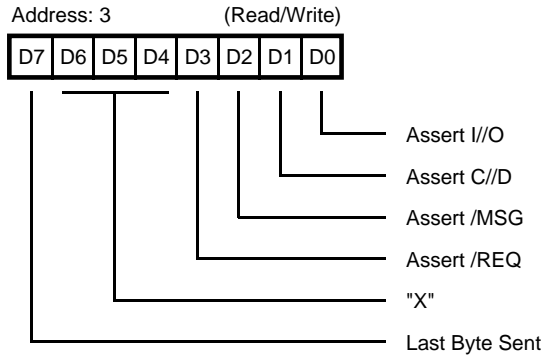

Figure 11. Target Command Register
Target Command Register. *Address 3(Read/Write).* When connected as a target device, the Target Command Register (Figure 11) allows the CPU to control the SCSI Bus Information Transfer phase and/or to assert /REQ by writing this register. The Targetmode bit (Mode Register, bit 6) must be True (1) for bus assertion to occur. The SCSI Bus phases are described in Table 2.